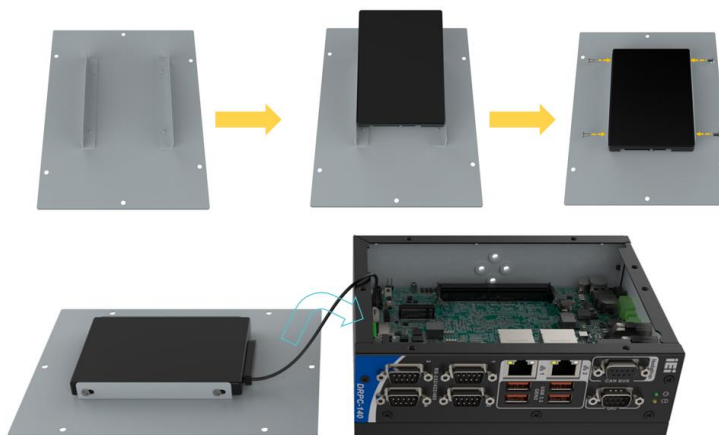

Figure 3-7: HDD Installation
- Step 2:** Connect the hard drive cable to the HDD and to the SATA connector on the motherboard. Install the cover back into the DRPC-140-EHL Series by using 6 screws (pay attention to the positioning stud). **(Figure 3-7).**